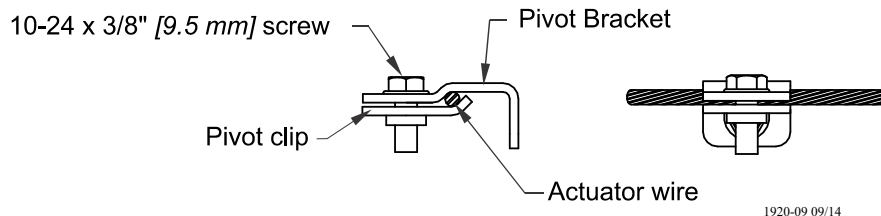

Figure 62. Clamping to actuator wire
3. Using the first pan away from the actuator, push the inner cone to the open position. Place the actuator wire between the pivot bracket and pivot clip then tighten the 10-24 screw, **see figure 62.**